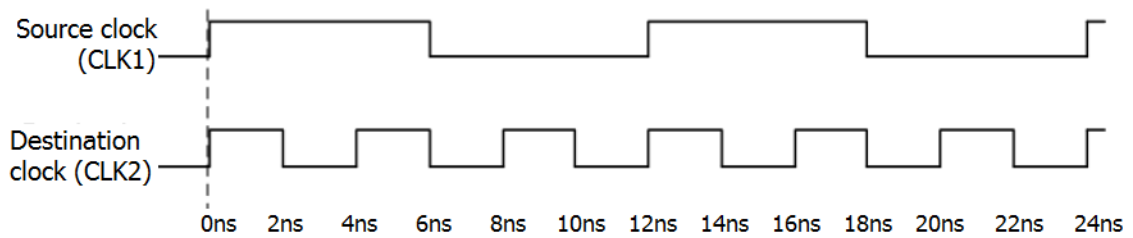

Figure 6-16: **Multicycles Between SLOW-to-FAST Clocks**
For example, assume that: (1) CLK2 is three times the frequency of CLK1; and (2) a clock enable signal on the receiving registers allows a Multicycle constraint to be set between both clocks. See Figure 6-16, Multicycles Between SLOW-to-FAST Clocks.